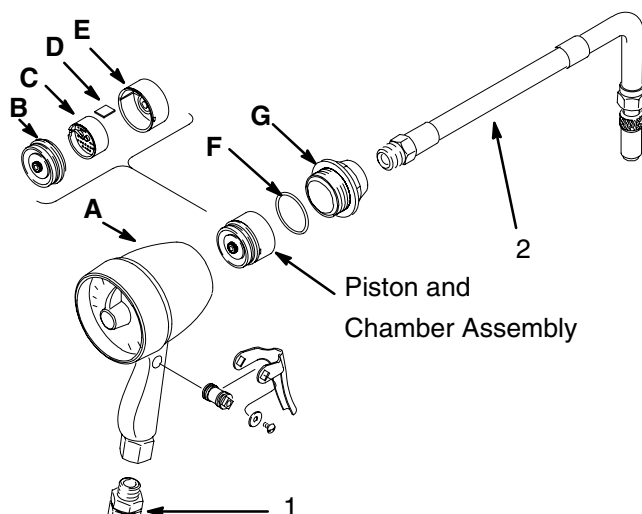

Fig 2
1. Screw the meter cap (G) out of the housing (A). Remove the o-ring (F), piston and chamber assembly, and the planet gear. See Fig 2.